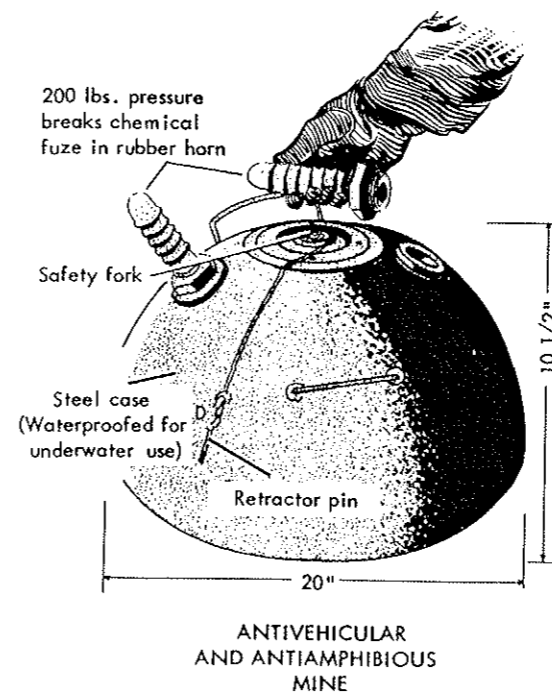

Figure 35.
3. Anti-amphibious mines (fig. 35) are used principally to hinder the landing of an enemy force by destroying landing craft and disabling landing vehicles. They are placed on the beach or in shallow water. They vary greatly in size and explosive content. The normal charge for this type of mine is from 20 to 70 pounds.